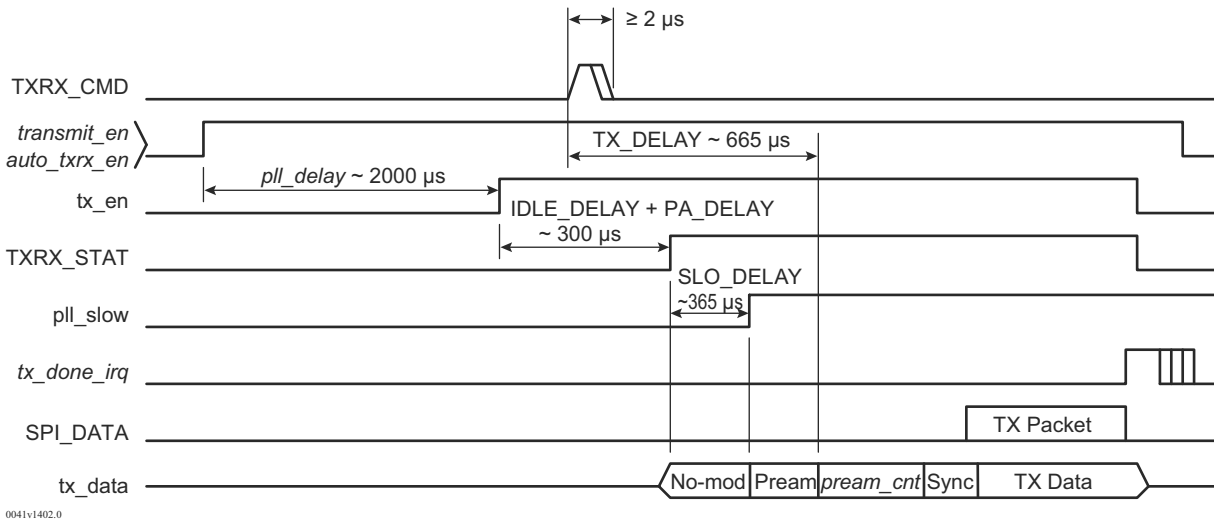

Figure 9-3 • Start of Transmit in Bit-Count Mode with Pulsed TXRX_CMD
- To extend the preamble, delay the assertion of TXRX_CMD until after the *pll_delay*. TXRX_CMD must be held high for a minimum of 2µs. See Figure 9-3.